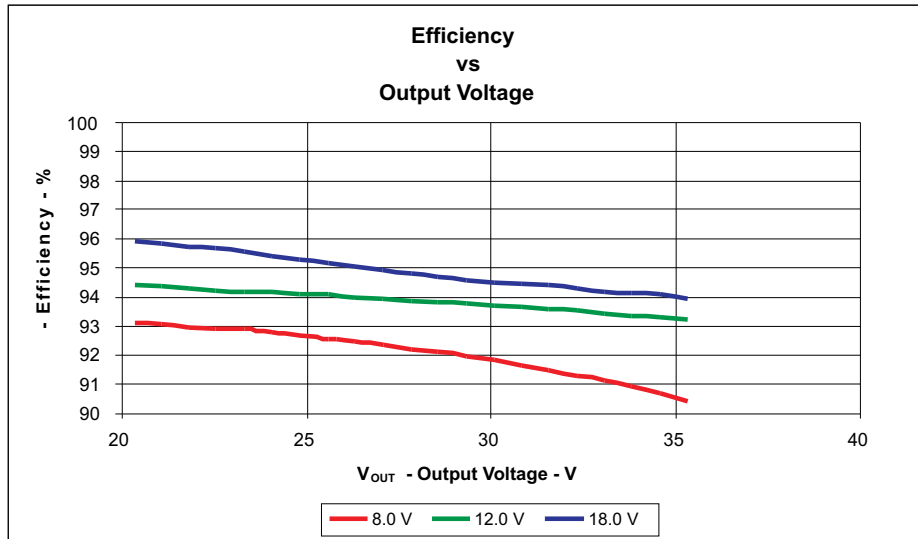

Figure 4. TPS40211EVM-352 Efficiency versus Output Voltage
1. Connect 1-kHz to 1-MHz isolation transformer to TP4 and TP5 as show in Figure 4
2. Connect input signal amplitude measurement probe (Channel A) to TP4 as shown in Figure 4
3. Connect output signal amplitude measurement probe (Channel B) to TP5 as shown in Figure 4
4. Connect ground lead of Channel A and Channel B to TP3 and TP6 as shown in Figure 4
Figure 4 through Figure 10 present typical performance curves for the TPS40211EVM-352. Since actual performance data can be affected by measurement techniques and environmental variables, these curves are presented for reference and may differ from actual field measurements.